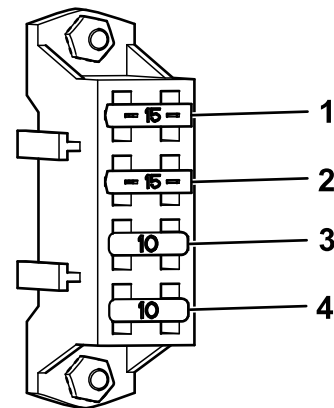

Figure 51
4. Replace any blown fuses (Figure 51).